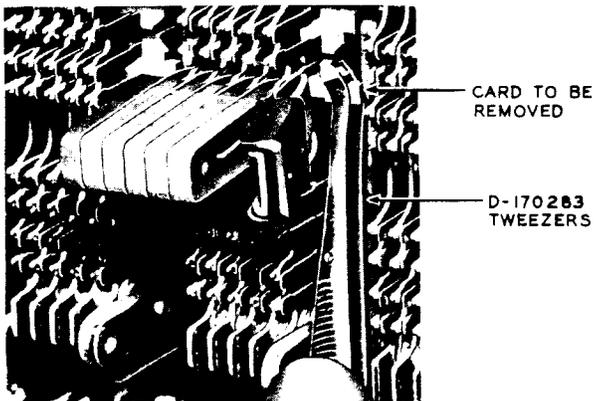

Fig. 7 - Rotating Card to a Flat Position With Tweezers
(2) Grasp one end of the card with the D-170283 tweezers as shown in Fig. 7, and rotate the card 90 degrees until it is lying flat. Withdraw the card from the spring assembly with the tweezers or the 485A pliers at the right-hand side of the unit unless the card is broken, in which case remove each part from the side of the vertical unit associated with the respective part. Removal of the card will be facilitated if it is moved slightly toward the rear of the switch as it is being withdrawn.